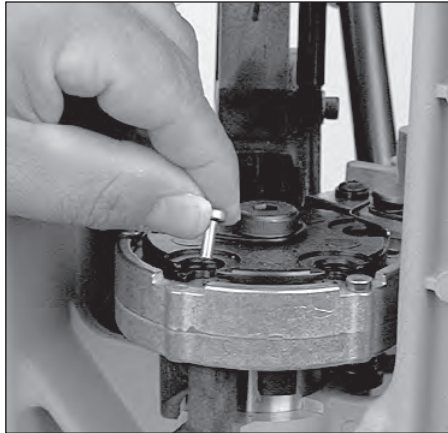

FIG 174
Step 10) Install new locator pins **FIG 174**: